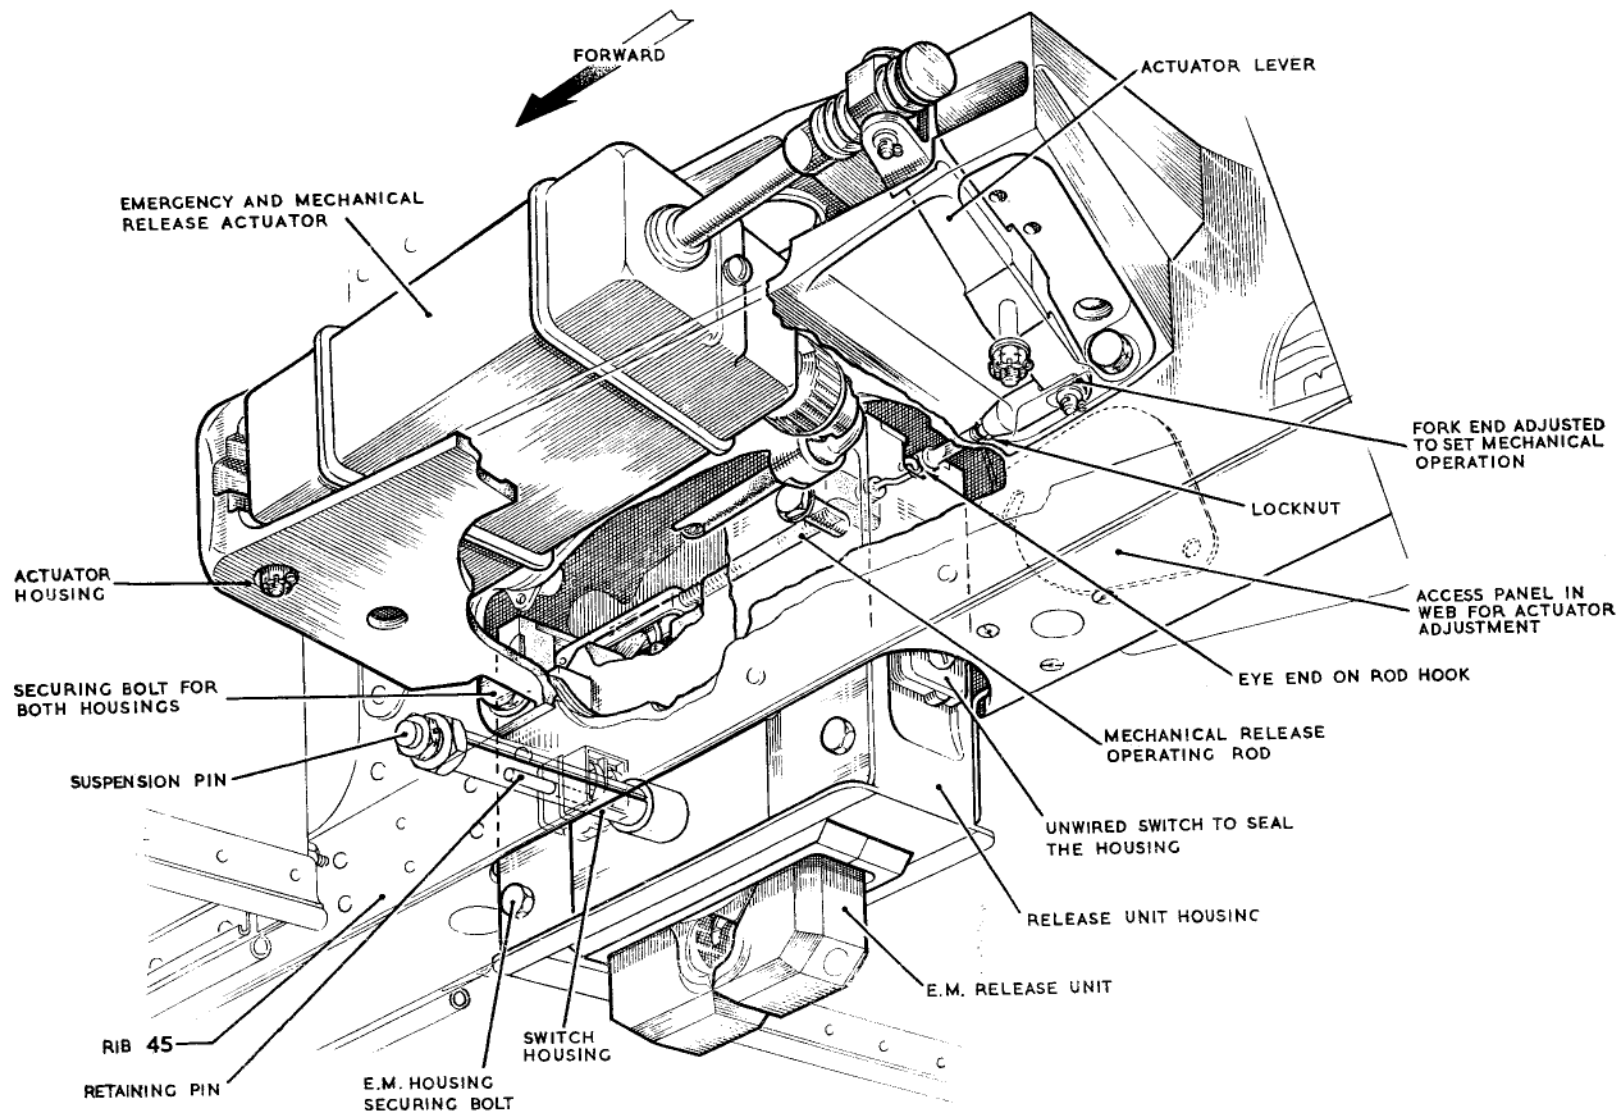

Fig. 2. Actuator and release housings
Fitting the E.M. release unit housing (*fig. 2*)
6. To fit the housings (*fig. 2*), proceed as follows:—